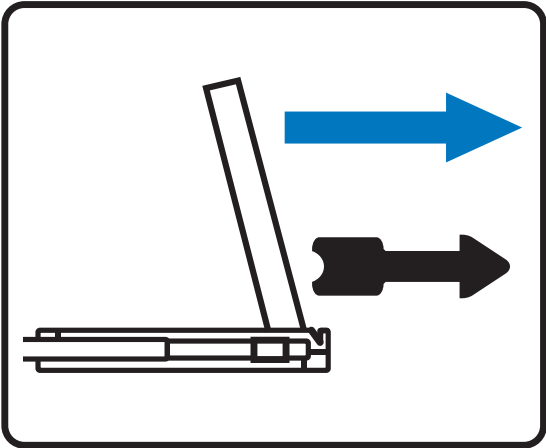

Figure 13.
- Pull and hold the black arrow button on either side of the LCD drawer to unlock. (shown in Figure 13).